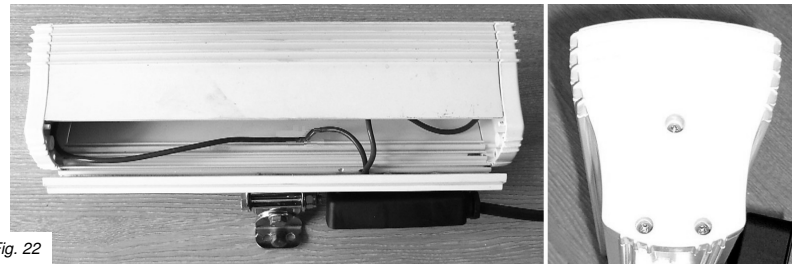

Fig. 22
21. If the leads are free to move and the guard and side reflectors are in order, the back plate should be closed and all screws refitted and checked for tightness as Fig. 22.